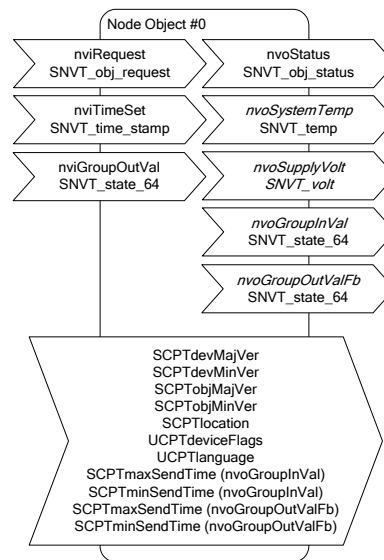

Figure 68: Node Object
**UFPTnodeObject.** The essential NVs and CPs of the functional profile are depicted in Figure 68.